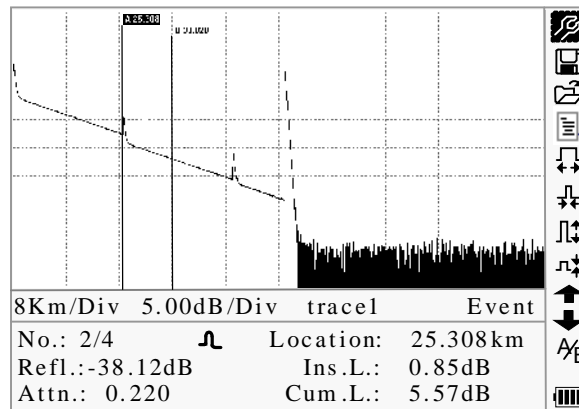
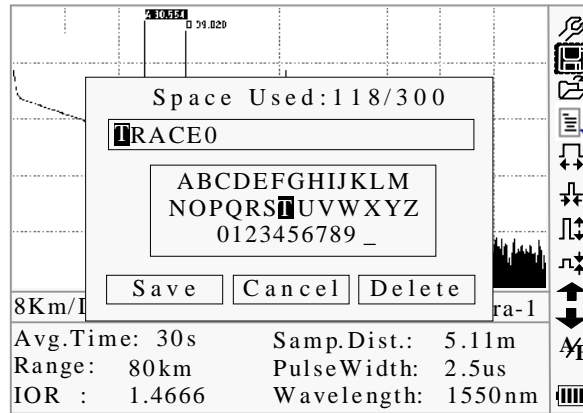
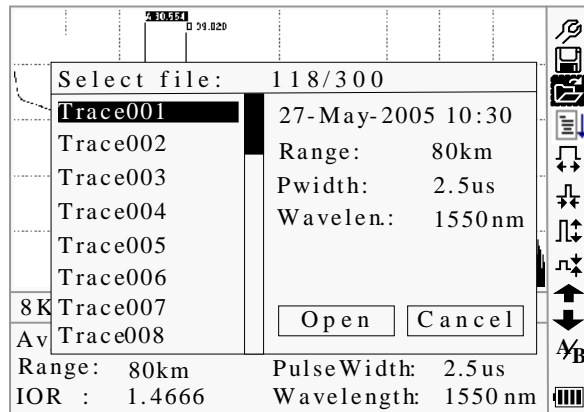

Figure 4-4. Trace Measurement of OTDR
Figure 4-5. Save Trace
Figure 4-6. Browse Saved Traces
- After a certain period of time, the trace displays on the GUI. The trace in the Figure below is a trace during measurement, which will be refreshed for every certain period of time to demonstrate the whole process to users in real time. But at the end of measurement, the trace will be final, as shown in Figure 4-4.
Under GUI of Figure 4-4., press [>] and the items of information window will display in circulation: measurement parameter analysis information Event list information of marker A/B fiber measurement parameter.
Under GUI of Figure 4-4, press [>], items in information window will switch to event list information.
Under GUI of Figure 4-4., use [>] and [>] to highlight ^A/_B, then press [Enter] to switch between marker A/B.
Under GUI of Figure 4-4., press [>] switch information window to marker A/B.
- Under GUI of Figure 4-4.,use [>] and [>] to highlight >,then press [Enter] to zoom in trace horizontally; or to zoom in trace horizontally by the combining hot key [Shift/⌘]+[>] in the keyboard
Under GUI of Figure 4-4., use [▲] and [▼] to highlight , and press [Enter] to zoom out trace. or to zoom out trace horizontally by the combining hot key [Shift/⌘]+[◀] in the keyboard.
- Under GUI of Figure 4-4, press [▲] and [▼] to highlight , then press [Enter] to zoom out trace vertically. or to zoom out trace vertically by the combining hot key [Shift/⌘]+ [▼] in the keyboard.
- Under GUI of Figure 4-4., use [▲] and [▼] to highlight , then press [Enter] to enter, as shown in Figure 4-5.
Under GUI of Figure 4-4, use [▲] and [▼] to highlight , press [Enter] to confirm, as shown in Figure 4-6.